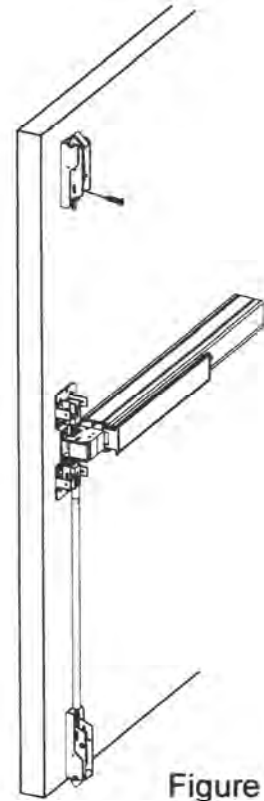

Figure 7
1. Mount top latch assembly into mounting bracket. (See Figure 7.)